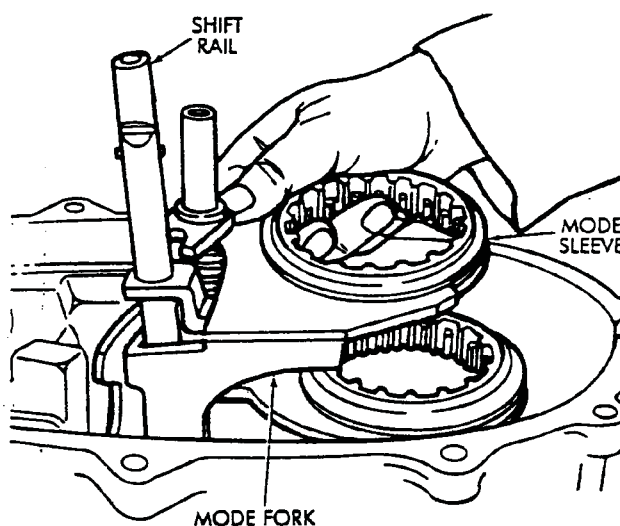

Fig. 4-15 Remove Mode Fork, Shift Rail and Mode Sleeve
20. Remove mode fork, shift rail and mode sleeve as assembly (Fig. 4-15). Mark sleeve and fork for reference and remove sleeve from fork. The mode fork and rail are pinned together. Remove the pin to separate the two components if necessary.